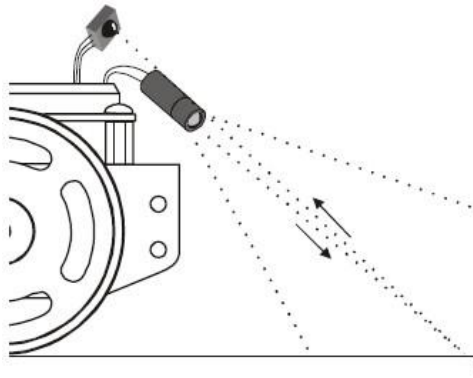

Figure 8. Infrared signal
The infrared (IR) LED emits infrared light and the reflected IR receiver reacts to light and transmits the signal as seen on Figure 8. The Boe-Bot IR works on the same principle as the TV remote.